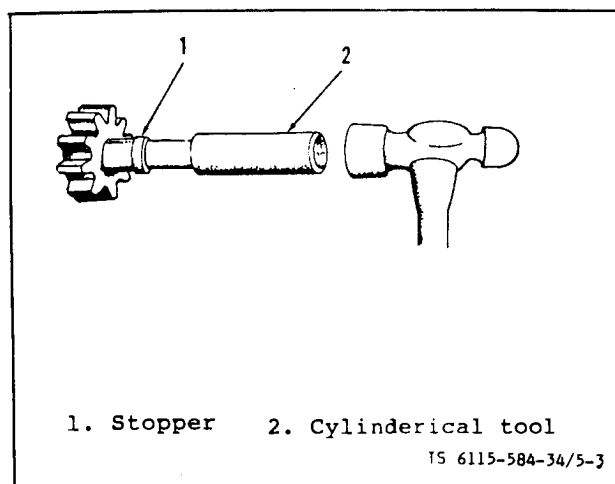

Figure 5-3. Pinion Gear Stopper Removal
(10) Remove lever (30) and gear (31).
(11) Push stopper (33) towards front bracket to release retaining ring (32). See figure 5-3. Remove retaining ring (32), stopper (33), pinion gear (34) and spring (35).
(12) Remove over running clutch (36) from the front bracket assembly (37).